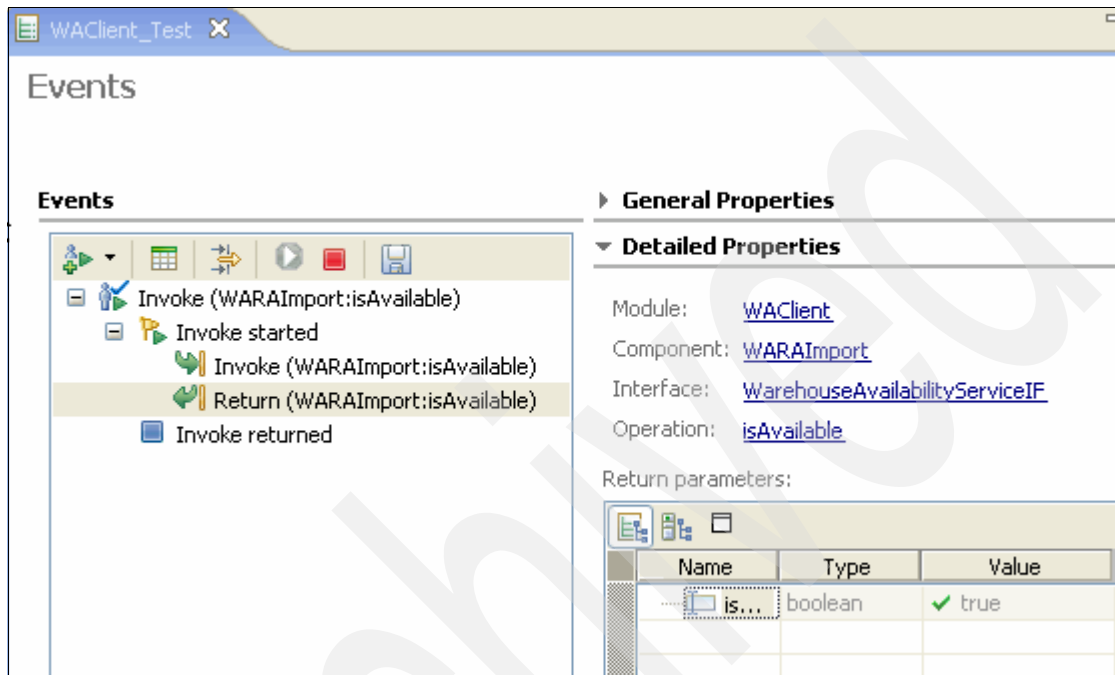

Figure 6-18 Testing Web services using the provided client application
3. Use the Integrated Test Client (that is, right-click the WAClient and select **Test** → **Module**) to test the three Web services. Figure 6-18 shows the test client properties that are used for the test.